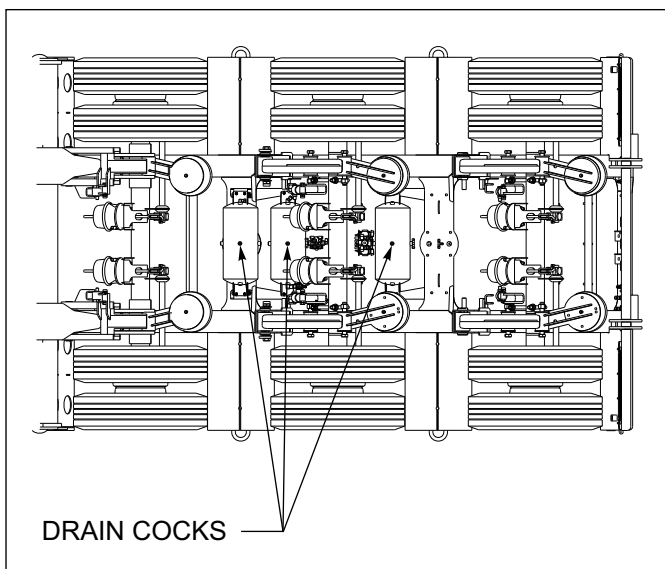

Figure 4-12: Drain Cock Locations
4. Drain air reservoir daily. A drain cock on the bottom of each air reservoir vents the tank to drain collected water and oil. If held open, air pressure in the tanks is relieved, causing the emergency or parking brakes to be applied (See Figure 4-12.)